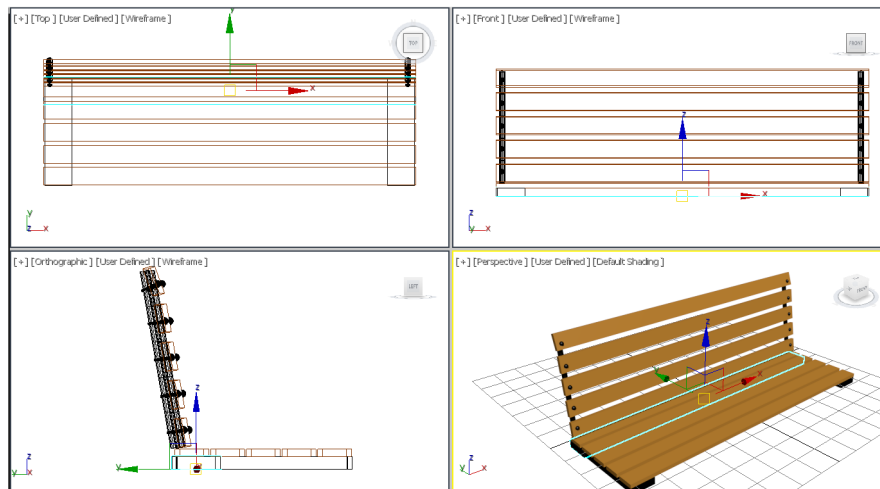

Figure 2-89 Alignment of leg support003 with horizontal seat support in the viewports
10. Choose the **Select and Move** tool and align *leg support003* with *horizontal seat support* in the viewports, as shown in Figure 2-89.